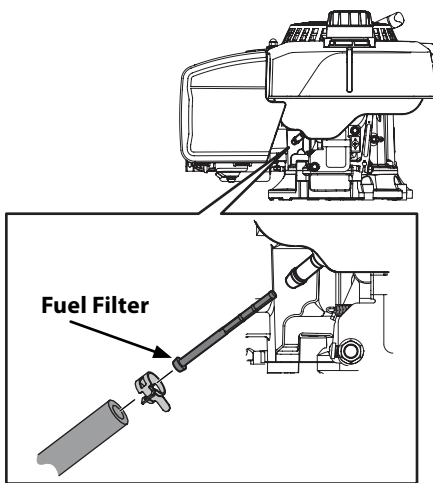

Figure 6-5
- Remove hose clamp from fuel line and remove fuel line from tank outlet. See Figure 6-5.
- Grasp new fuel filter from shouldered end and insert it completely to the shoulder into the tank outlet. See Figure 6-5 inset.